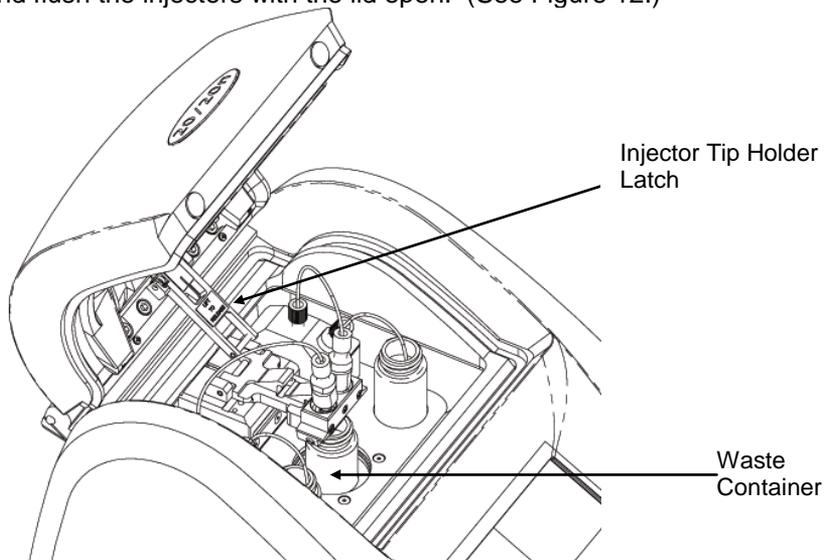

Figure 12. Place a waste container underneath the tips during prime and flush.
3. Place a waste container underneath the injector tip assembly. If necessary, unlatch the injector tip holder from the instrument lid. By unlatching the injector tip holder from the instrument lid, you can prime and flush the injectors with the lid open. (See Figure 12.)